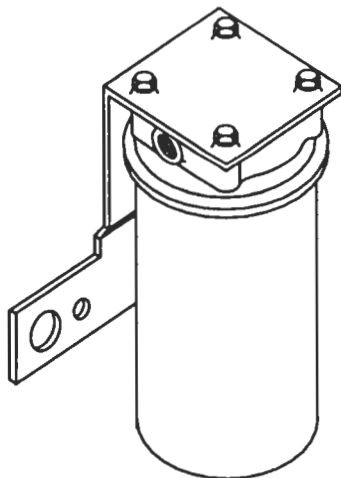

Figure 1. Coolant Filter and Conditioner (Spin-on Type)
1. Remove and discard the element (Figure 1.)